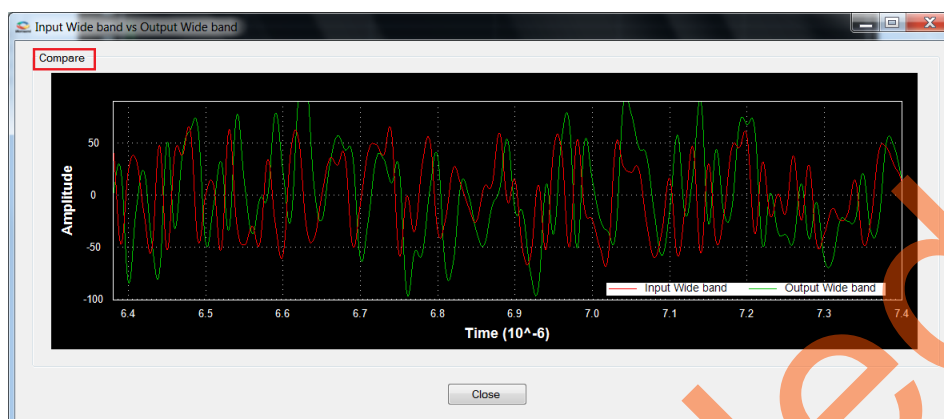

Figure 25 • Comparison of Input Wide Band and Output Wide Band
10. Compare the Error signal (output wide band signal) with the input wide band signal, refer to Figure 25. You can see that the narrow band interfering component is eliminated and the wide band signal is preserved in Error signal.